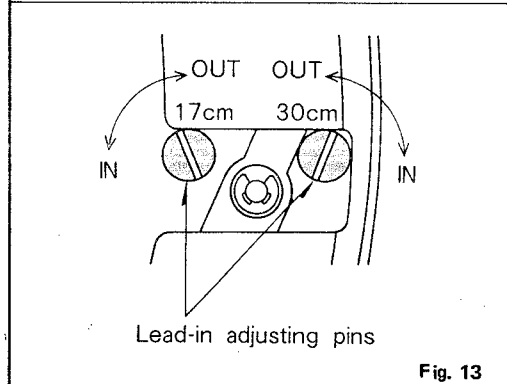

Fig. 13
- Set the lead-in adjusting pin to the position as shown in Fig. 13.
- Rotate the adjusting pin for 30cm in Fig. 13 so that stylus falls onto the first non-sound grooves of the record upon automatic start.
- Rotate the adjusting pin for 17cm in Fig. 13 so that stylus falls onto the first non-sound grooves of the record upon automatic start.